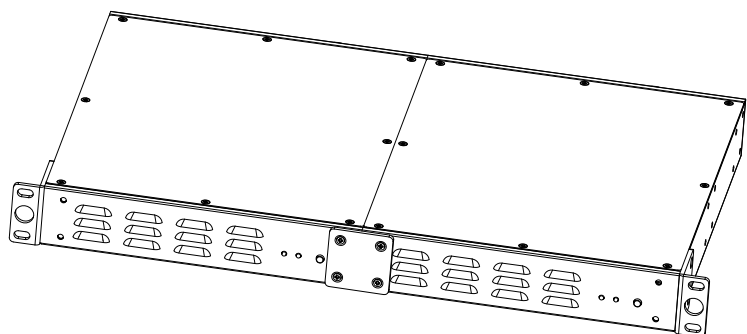

Figure 3: Setup for side-by-side rack mounting
3. Using four of the supplied screws, fasten a coupling bracket to the front surfaces of both units so that they are joined together at the front as shown in Figure 3.
5. Using eight of the supplied screws, fasten short rack mounting ears to the sides of the pair of units as shown in Figure 3.